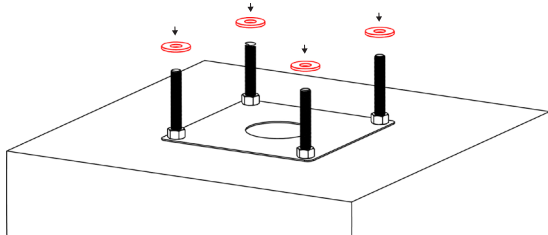

Figure 10
- Using the hardware you set aside from Step 6 on the Bolt Plate Installation page, place (4) Flat Washers on the J-Bolts of the anchor plate. See Figure 10.